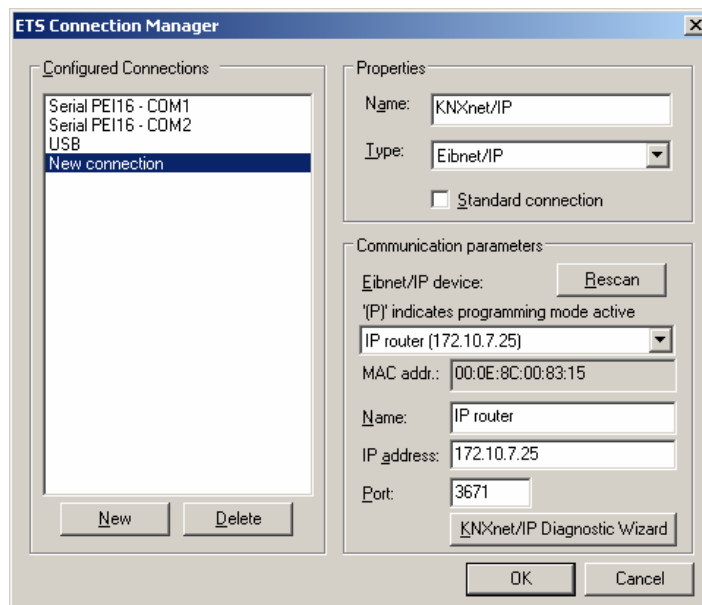

Fig. 8: Complete interface configuration of the IP router
5. Thereafter, the configuration of the new connection can be terminated by clicking on the "OK" button. The communication parameters (cf. Fig. 8) should remain unchanged.